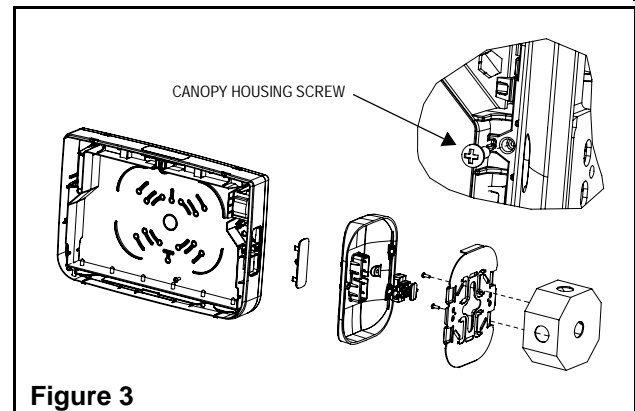

Figure 3
- a. Canopy required. Attach the spider plate to electrical box with the junction box screws. Remove appropriate hole plug. Feed AC supply leads through side or top opening and then through canopy. Snap canopy on top or side of frame (See Fig. 3). Screw canopy to frame(11). In the case where a canopy lock is supplied, you may refrain from screwing the canopy to the frame and simply snap the